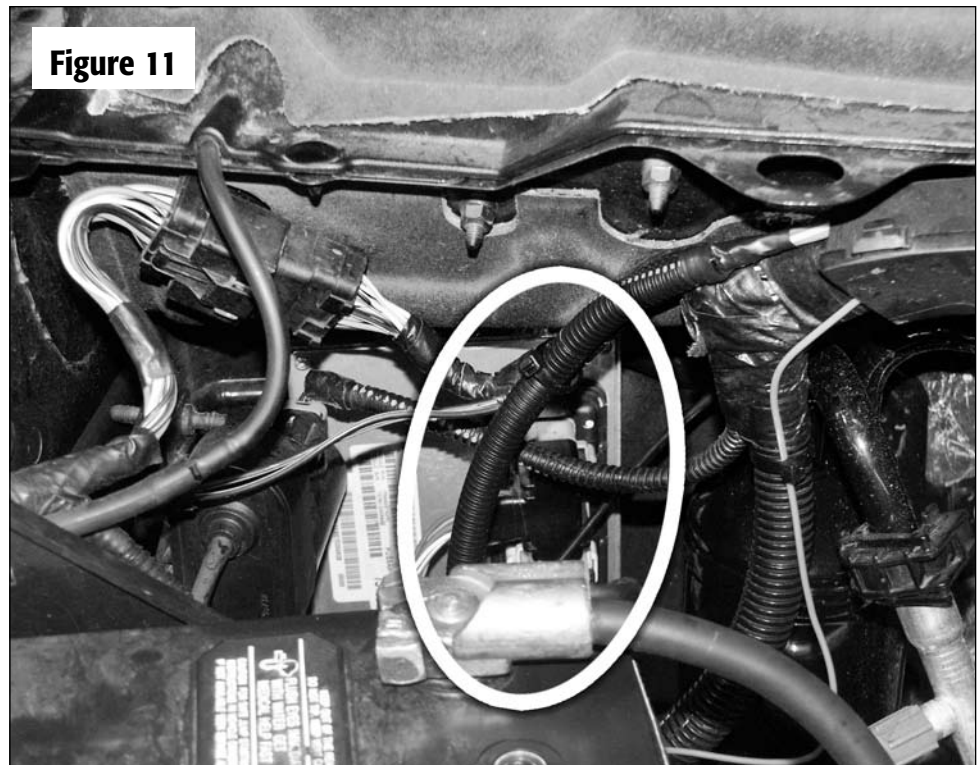

Figure 11
- 1) The PCM is not located on the passenger side firewall behind the battery. See Figure 11. The Banks SmartLock is only designed to work with PCMs that are located on the passenger side firewall behind the battery.
22. Locate the three (3) PCM connectors on the passenger side as shown in **Figure 11**. Find the orange wire with black stripe on the white PCM connector (the middle one). Cut the wire. Install a female spade connector on the side going into the PCM, and a male spade connector on the side coming from the transmission. Connect the SmartLock yellow wire to the PCM side, and the orange wire to the transmission side. See **Figure 12**. *Note: Detaching the PCM connectors might make the task easier.*